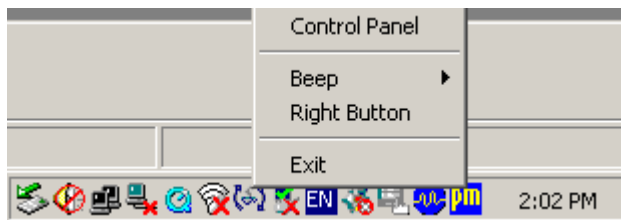

Figure 7-8: PenMount Monitor Popup Menu
Step 4: Click the icon. A pop up menu appears. See Figure 7-8.
Step 5: Click Control Panel in the pop up menu shown in Figure 7-8.